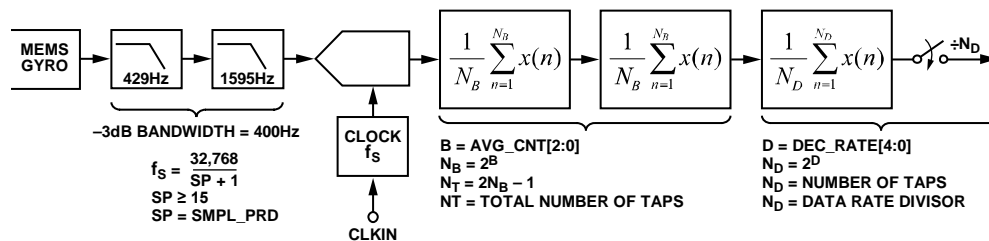

Figure 18. Sampling and Frequency Response Block Diagram
The GYRO\_OUT2 register (see Table 11) captures the bit growth associated with the decimation and FIR filters (see Figure 18) using an MSB justified format. The bit growth starts with the MSB (GYRO\_OUT2[15]), is equal to the decimation rate setting in DEC\_RATE[4:0] (see Table 18), and grows in the LSB direction as the decimation rate increases. See Figure 14 for more details.
Figure 18 provides a block diagram for the sampling and digital filter stages inside of the ADIS16137. Table 15 provides a summary of registers for sample rate and filter control.
[15:0]	Clock setting bits; sets $f_s$ in Figure 18
[2:0]	Binary; B variable in Figure 18; maximum = 110 (6)
The DEC\_RATE register (see Table 18) provides user control for the final filter stage (see Figure 18), which averages and decimates the output data. For systems that value lower sample rates, this filter stage provides an opportunity to lower the sample rate while maintaining optimal bias stability performance. The -3 dB bandwidth of this filter stage is approximately one-half of the output data rate. For example, set DEC\_RATE[7:0] = 0x04 (DIN = 0xA204) to reduce the sample rate by a factor of 16. When the factory default 2048 SPS sample rate is used, this decimation setting reduces the output data rate to 128 SPS and the sensor bandwidth to approximately 64 Hz.
[4:0]	Binary; D variable in Figure 18; maximum = 10000 (binary) = 16 (decimal)